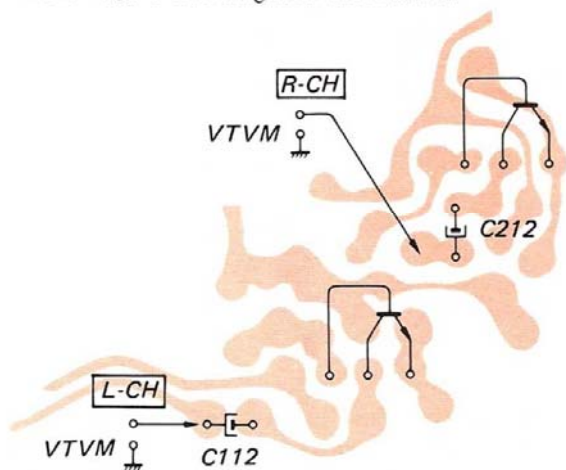

Fig. 3-2-12. Trap coil adjustment
- Step 1. Connect a VTVM across the check point and ground as shown in Fig. 3-2-12.